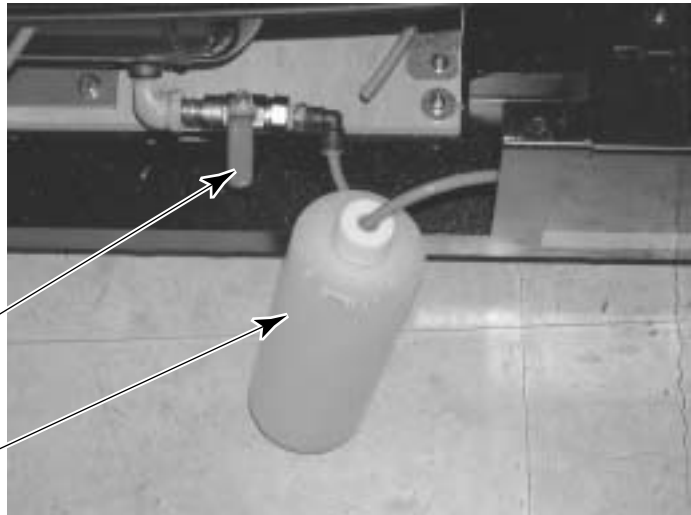

FIG. 10. 3 a
- ④ Turn the Drain Cock by 90 degrees to have the compressed air and water discharged. If the cock is not transferred little by little, water will splash out. At this time, hold the tube tight so water may not splash out or on your body (FIG. 10. 3 b).